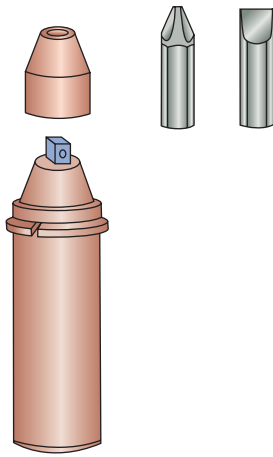

Figure 3-23 A typical impact screwdriver. Note the removable cap that would allow a socket wrench to fit on the end of the tool.
- **Impact screwdrivers.** These are used often on power equipment engines to remove and install fasteners where hand or wrench torque is insufficient (Figure 3-23). The drive mechanism of the impact screwdriver converts the impact force of a hammer blow to rotational torque, which is transferred to the screwdriver tip.